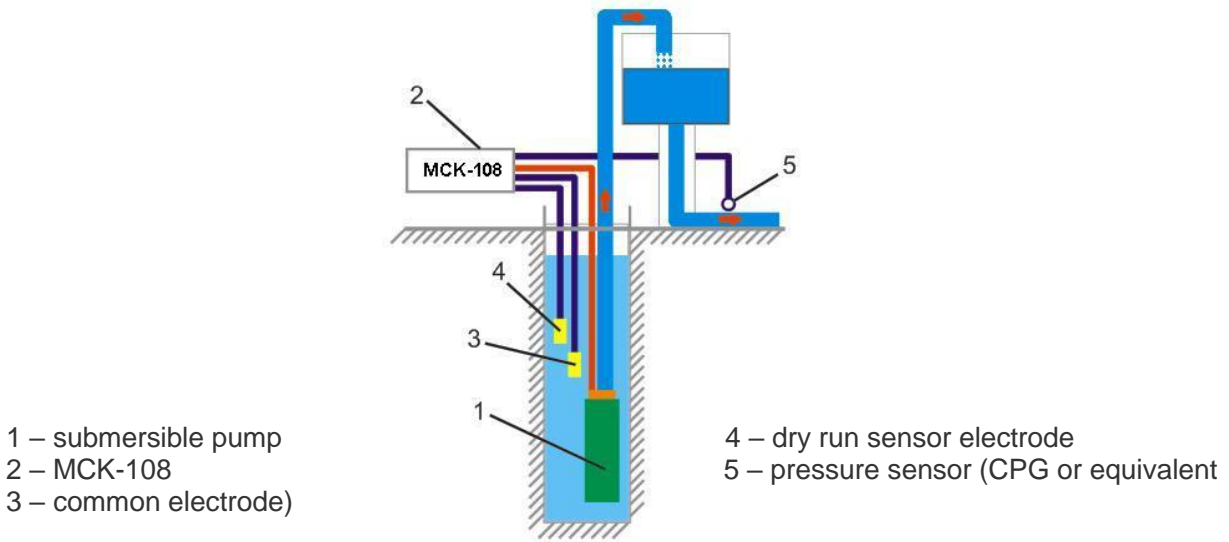

Figure 2.3 – Application of MCK-108 in the filling mode with pressure sensor
- filling with pressure sensors (Figure 2.3);